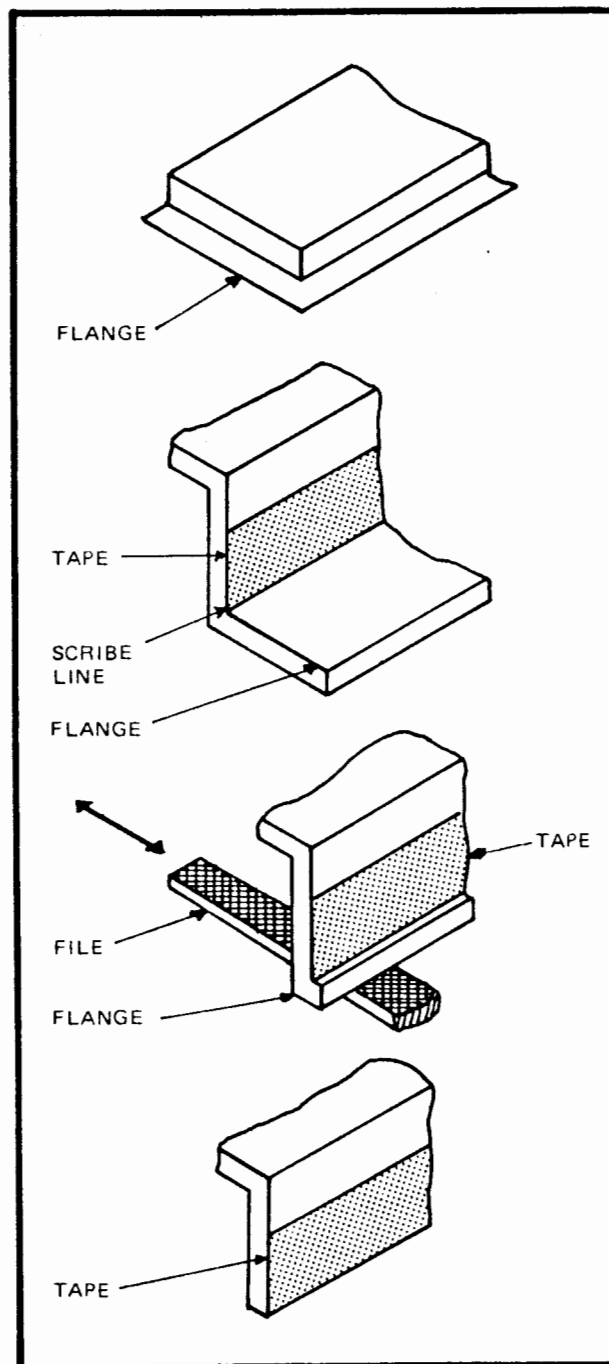

Figure 27
- In a situation where the scribe line falls in a right angle corner, such as the running board flange, tape the vertical surface at a right angle to the flange. Cut the flange off next to the tape. File off the remaining fiberglass level with the tape. (Refer to Figure 27)